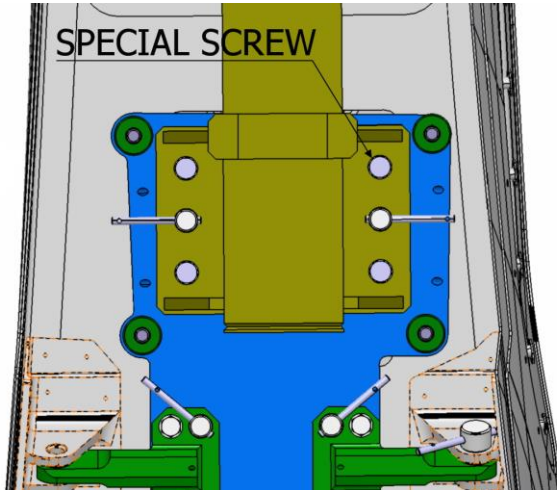

Figure 20: ITEM 1 FIXING.
7. Lock ITEM 2 to 3G5350G00931 using the four special screw shown in the fig.20.